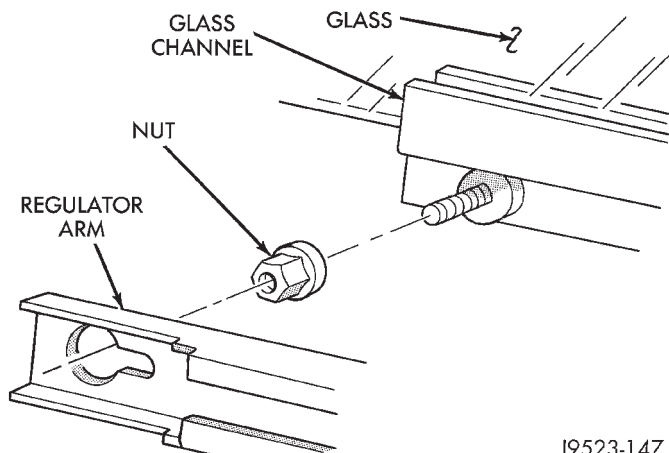

Fig. 35 Door Glass
- (1) Remove door trim panel.
- (2) Remove water dam as necessary to gain access to glass regulator arm.
- (3) Remove inner door belt weatherstrip.
- (4) Remove outer door belt weatherstrip.
- (5) Lower glass to full down position and align glass regulator arm with access holes in inner door panel.
- (6) Remove front glass run channel.
- (7) Remove nuts attaching glass channel to regulator arm (Fig. 35).
- (8) Separate glass from regulator arm.
- (9) Lift glass upward and out of opening at top of door.